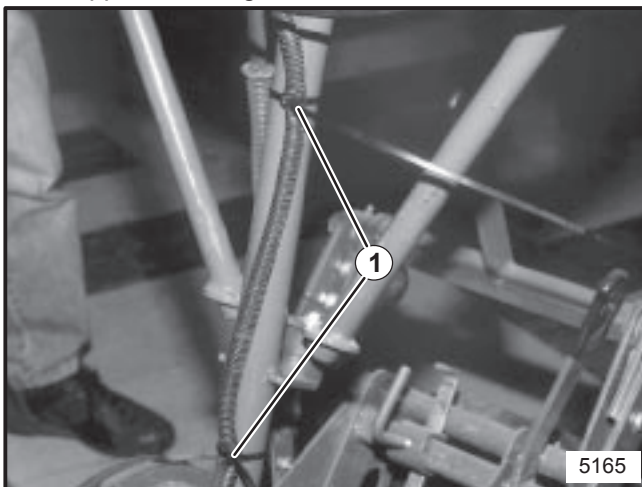

FIGURE 15
23. Use wire ties to secure convoluted tubing to handle-bar support. See Figure 15.